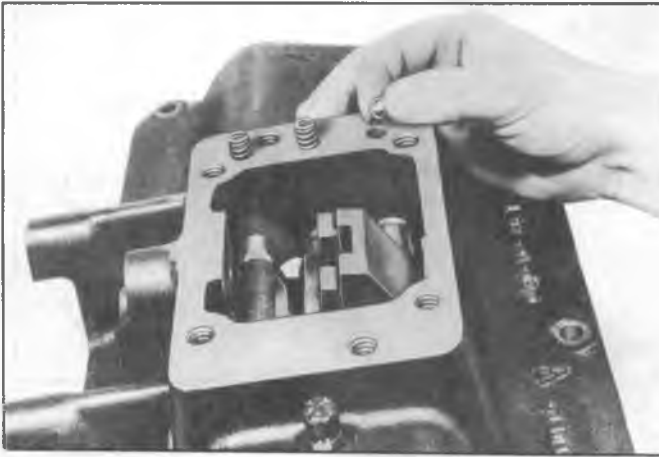

Fig. 14R--Installing Poppet Balls and Springs
10. Place cover right side up on bench and install poppet balls and springs in holes in cover (Fig. 14R).